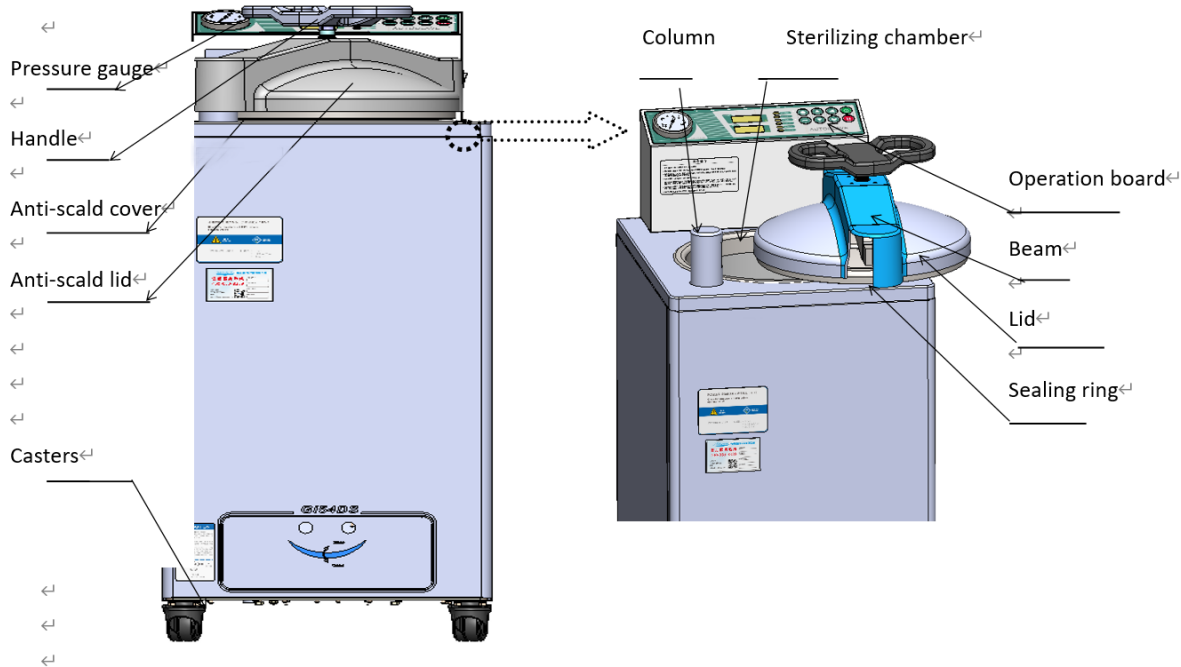

Figure 1
1) Check the water tank of the instrument(Fig1),make sure the water level is under the high water level line, empty it if too high. If you don't empty it, the water will come out.Put the exhaust tube into this exhaust water tank.